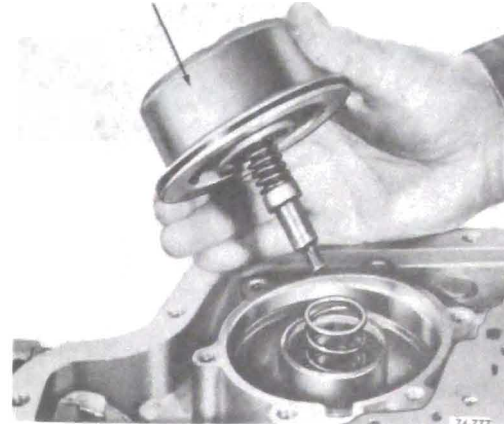

Figure 76-776
2. Install rear servo assembly into case. See Figure 76-776.